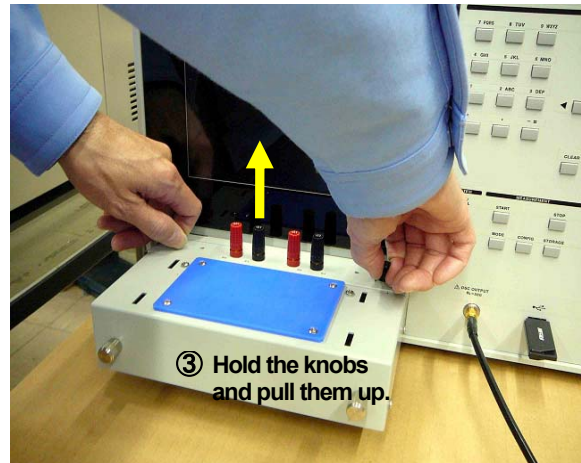

Fig.2-5 Connection of chamber cable
Use the Phillips screwdriver to remove two M3 screws on the terminal base (see Fig.2-5).
- ③ Hold the terminal base knobs with both hands and pull up them (see Fig.2-5).